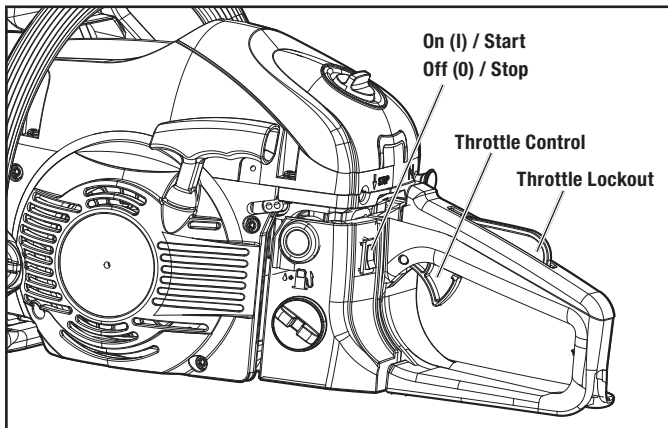
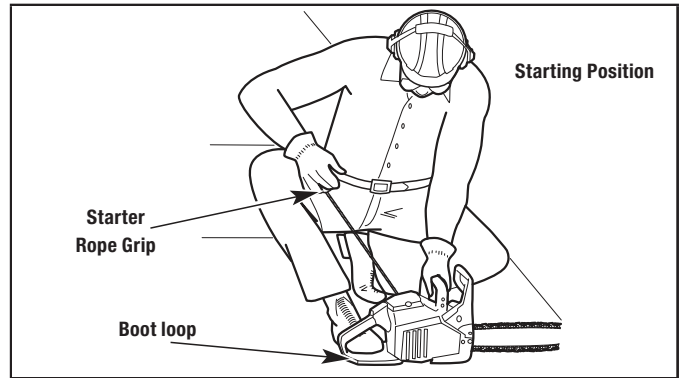

Figure 3
Figure 5
Avoid accidentally starting the chainsaw. To avoid serious injury, the operator and the chainsaw must be in a stable position when pulling the starter rope (Fig. 5).
4. DO NOT touch the throttle control (Fig. 3). Set the chainsaw on a flat, level surface. Crouch in the starting position (Fig. 5) or bend over. Hold the front handle with the left hand. Hold the starter rope grip with the right hand. Insert the right foot into the boot loop to help hold the chainsaw firmly in place. Pull the starter rope rapidly until the engine pops or putters, or up to 4 times if you do not hear or feel the engine putter. The engine may start on this step, if not proceed to next step.
2. To stop the engine, depress and hold the STOP switch (Fig. 3) to the stop position.